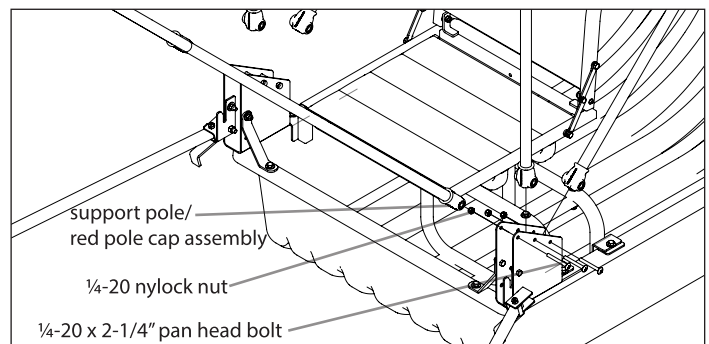

FIGURE 7
10. Attach the (3) support pole/pole cap assemblies (15519/68060) to the hinge assemblies (11652/11653) using (6) ¼-20 x 2-1¼" pan head bolts, and (6) ¼" washers. **SEE FIGURE 7**